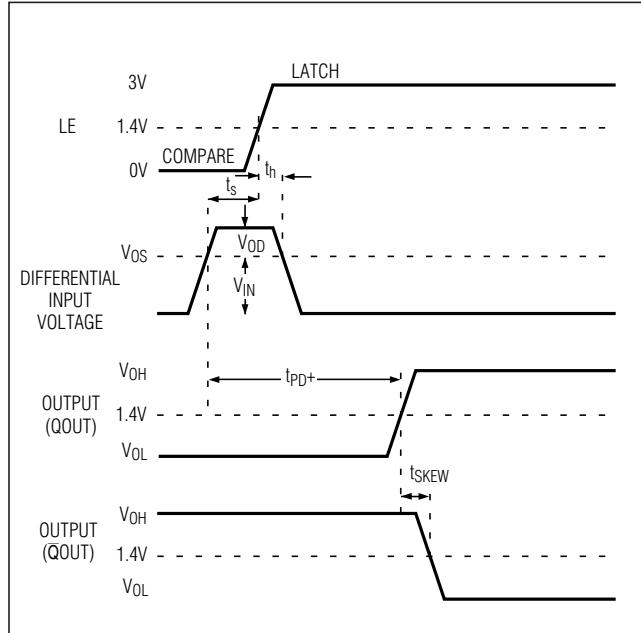

Figure 2. MAX909 Timing Diagram
**Note 12:** Latch specifications apply to MAX909 only (see Figure 2).
The MAX909 includes an internal latch, allowing the result of a comparison to be stored. If LE is low, the latch is transparent (i.e., the comparator operates as though the latch is not present). The state of the comparator output is stored when LE is high (Figure 2).